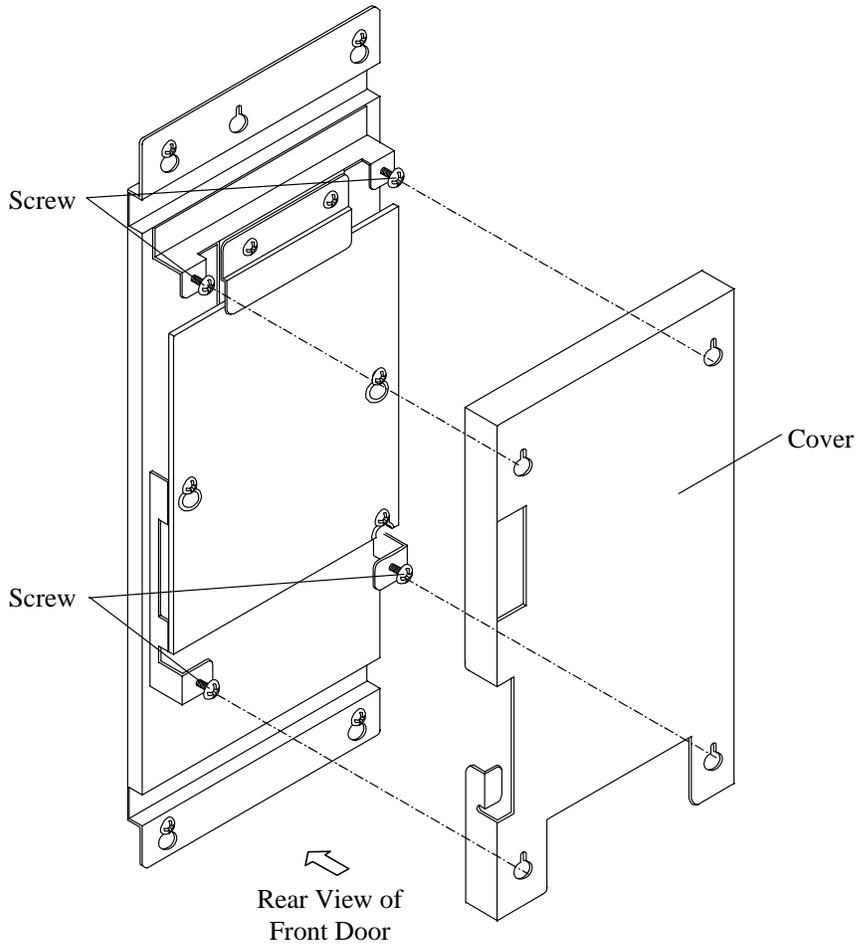

Fig. T1-1 Removal of Cover
- a. Attach the cover and fasten the screw. Refer to Fig. T1-1.